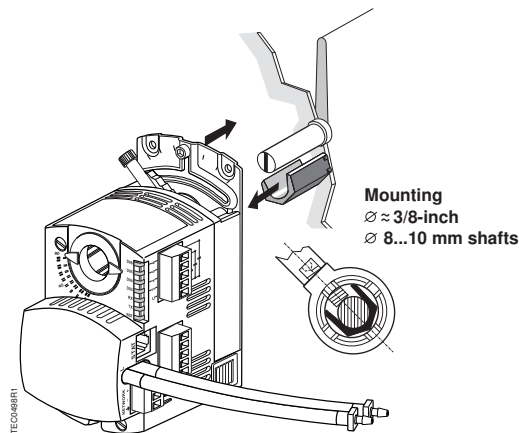

Figure 4. Installing the 3/8-inch Shaft Adapter.
- b. Use the 3/8-inch adapter, provided in the actuator packaging, Figure 4. Hold the shaft insert so that the raised tabs are inserted last when placing the insert into the back of the actuator.